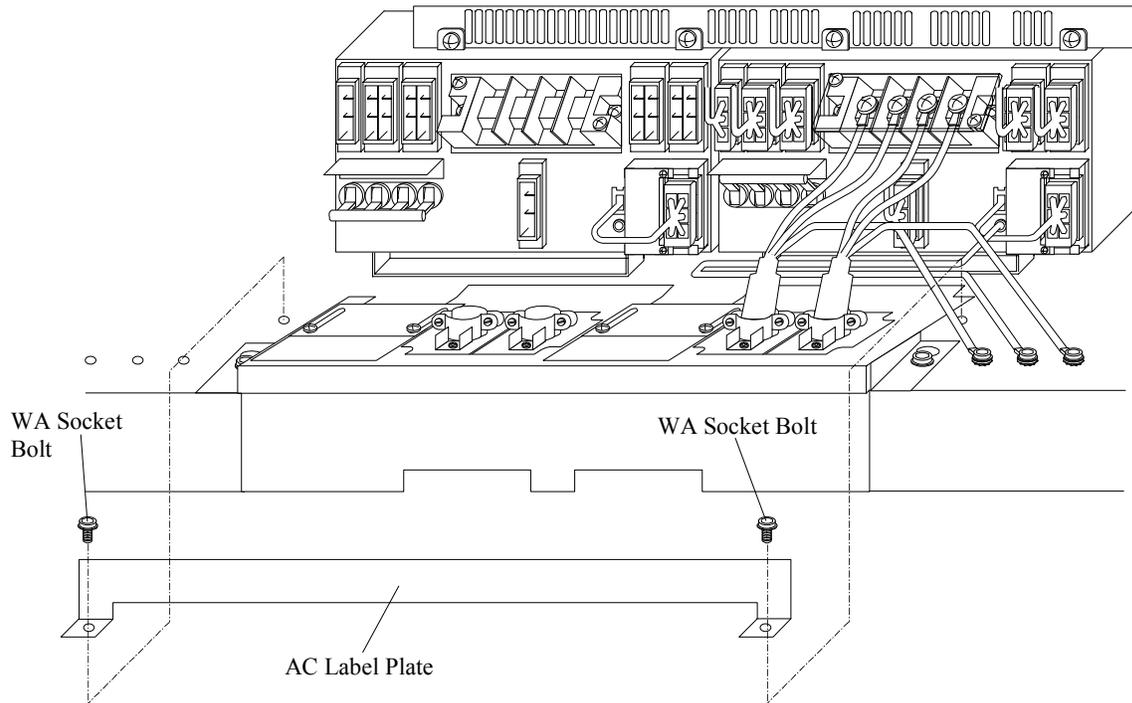

Fig. T19.1-3A Removal of AC Label Plate
- d. Attach the AC label plate and fasten the two WA socket bolts. (Refer to Fig. T19.1-3A.)